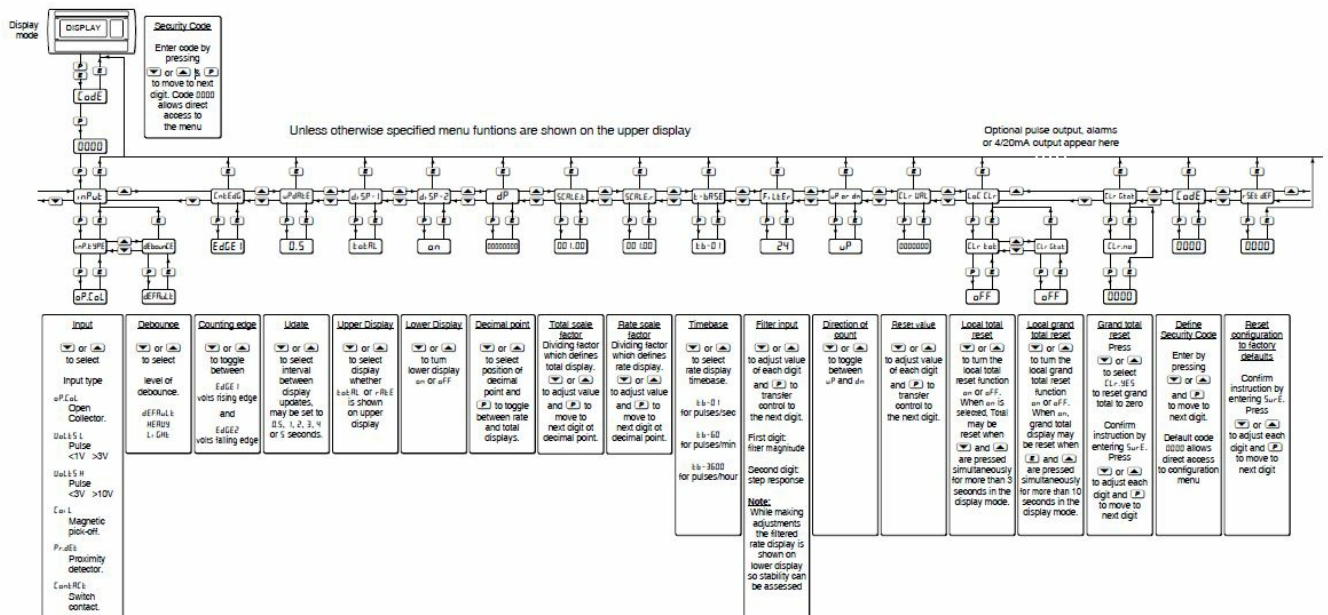

Fig 6 Configuration menu
- Fig 6 shows the location of each function within the configuration menu with a brief summary of the function. Please refer to the full instruction manual for detailed configuration information and for description of optional outputs.